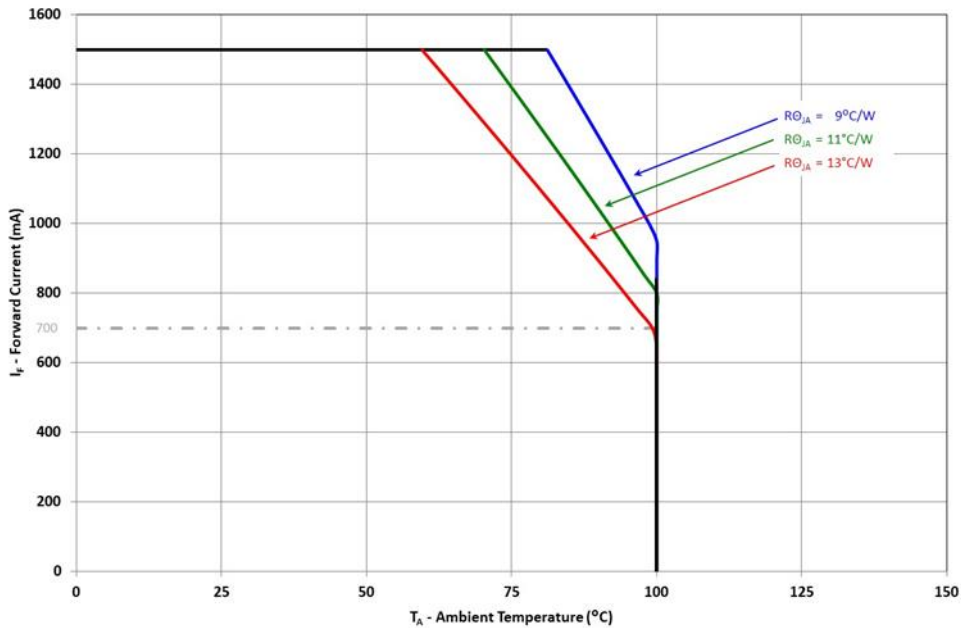

Figure 11: Maximum forward current vs. ambient temperature based on T_{J(MAX)} = 130°C.
- Maximum DC forward current is determined by the overall thermal resistance and ambient temperature. Follow the curves in Figure 11 for *Current Derating*.
Notes for Figure 11: